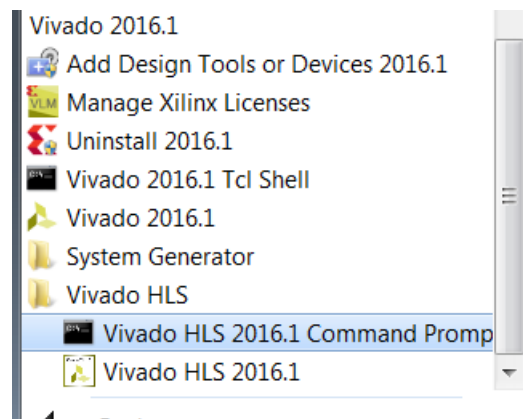

Figure 10-1: Vivado HLS Command Prompt
- On Windows use **Start > All Programs > Xilinx Design Tools > Vivado 2016.1 > Vivado HLS > Vivado HLS 2016.1 Command Prompt** (Figure 10-1).